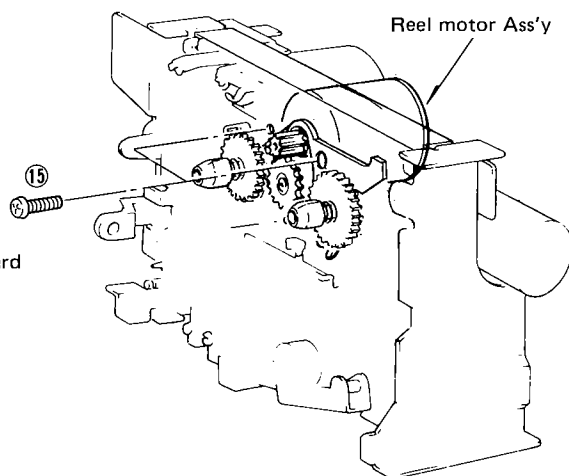

Fig. 14
- Remove 2 screws (15) in Fig.14 and then remove the reel motor ass'y.